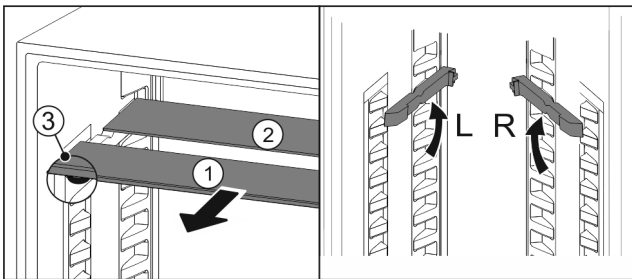

Fig. 124
- ▶ Pull the glass panels out Fig. 124 (1) from the front, one at a time.
- ▶ The glass panel Fig. 124 (1) and trim strip are at the front.
- ▶ The stops Fig. 124 (3) point down.